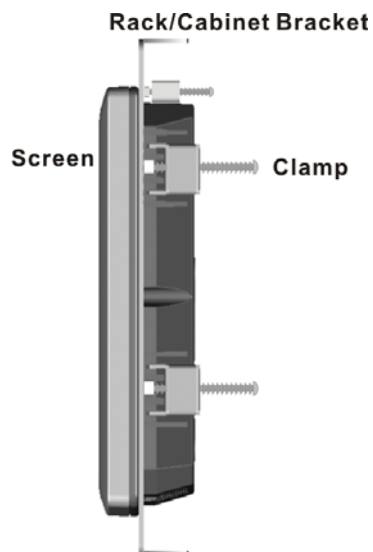

Figure 3-21: Secure the Rack/Cabinet Bracket (AFL-10A-LX/AFL-12A-LX)
Step 3: Tighten the screws that pass through the rack mounting clamps until the plastic caps at the front of all the screws are firmly secured to the bracket (**Figure 3-21**).